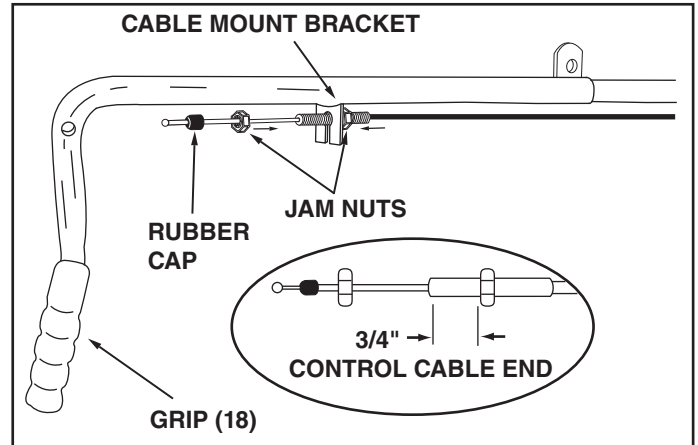

FIGURE 9
- STEP 9:** Remove the rubber cap and the first jam nut from the threaded end of the control cable and slide them onto the control cable wire. Adjust the second jam nut on the threads so that it is approximately 3/4" from end. Assemble threaded end of cable through the cable mount bracket and secure it with the first jam nut. Reinstall the rubber cap onto the threaded cable end. See figure 9.
- Install grip (18) onto the end of the lift handle tube.